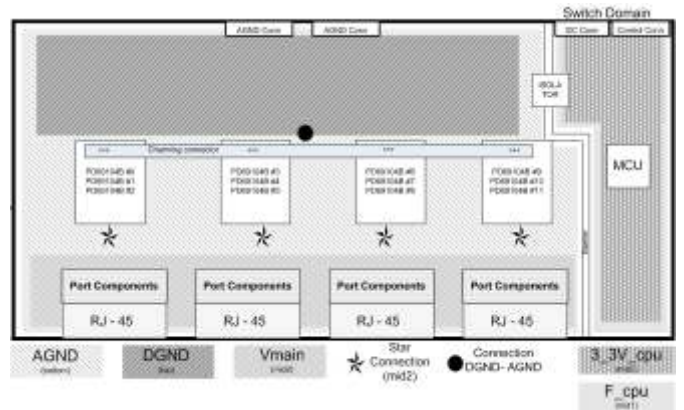
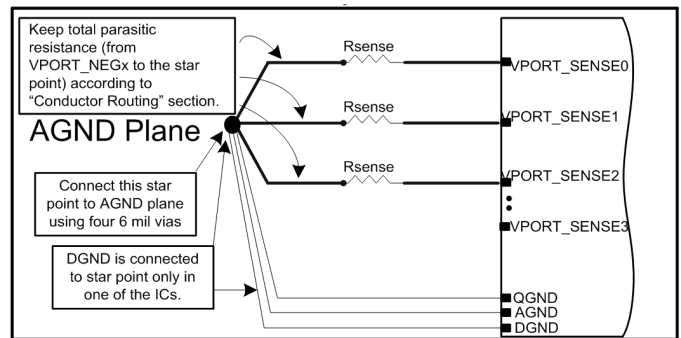
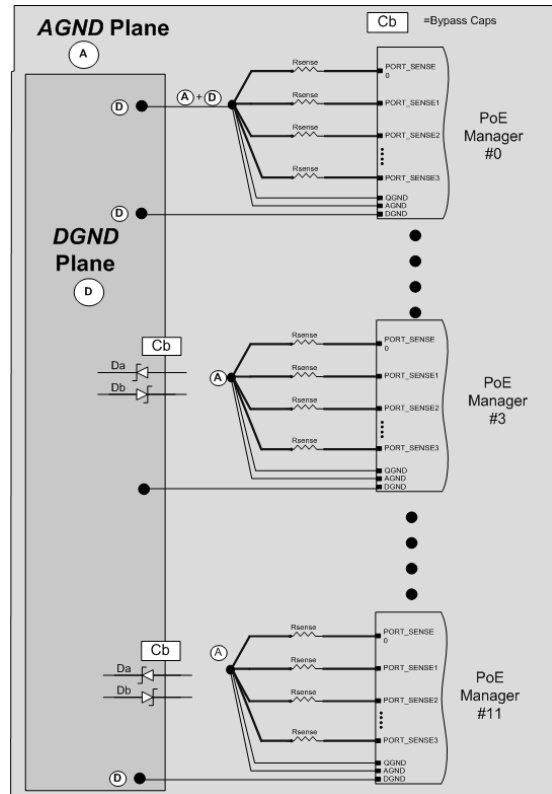
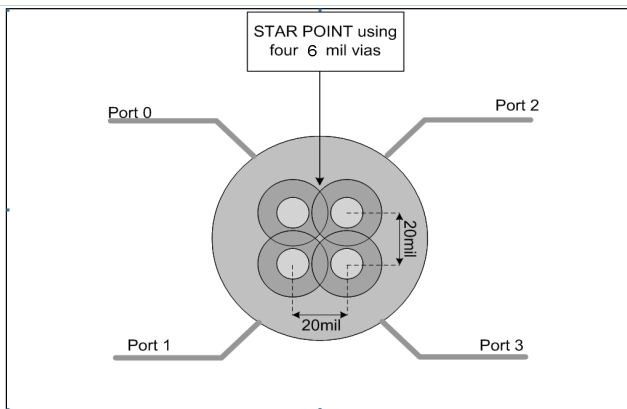

Figure 11: Ground and Power Planes
Figure 12: Star Point and Sense Resistors Design Criteria
Figure 13: Overall Grounding Scheme
Figure 14: Star Point Layout
Ground planes are crucial for proper operation and should be designed in accordance with the following guidelines, as illustrated in Figure 11:
- To prevent ground loop currents, use only a single connection point between the digital and analog grounds as shown in Figure 12 and Figure 13.
- Grounding layout is recommended to be implemented as described in Figure 13.
- $R_{sense}$  resistors for each PoE Manager are all connected to local "star point". The star center is connected to the analog ground (AGND) using four tied power via's of 6 mil diameter each (see Figure 12, Figure 13 and Figure 14).
- In addition, the  $R_{sense}$  resistors' "star point" connection to the PD69104B utilized as #0, is to be the focal interconnection point for the digital and analog grounds (see Figure 13).
- Leave spacing for a ceramic 1nF bypass capacitor near each PoE Manager (marked as "Cb" in Figure 13) between the analog and digital layers near each PoE Manager. The capacitors form low impedance paths for digital driving signals.
- Leave appropriate spacing (provision) for two parallel and inversed Schottky diodes (Da, Db, Figure 13) between analog and digital layers near each PoE Manager. The diodes form low impedance paths for highly energized signals running between analog
- Each PD69104B's port incorporates a current sense resistor. For proper power management and control, layout these lines so that adjacent ports current flow or excessive path resistance doesn't impede measured current. To do this, use a single common point to aggregate the current flow of all 4 ports to the analog ground (AGND) layer. This point is referred to as the local PoE Manager "star point" (see Figure 11, Figure 12 and Figure 13). It is critical to design the total layout path (traces resistance from PORT\_SENSEx pin to AGND star point) for an accurate resistance value, since a wrong resistance value results in a current measurement error and unreliable power management. Parasitic resistance added by the layout traces must be 6m $\Omega$ . Since routing requires narrow traces in some areas, wide traces in other areas are necessary for achieving a total trace resistance of 6m $\Omega$ .
- The local "star point" needs to carry high current from the sense resistors to AGND. To achieve this, use four tied power vias of 6 mil diameter each (see Figure 14). Avoid using plugged vias to preclude temperature rise.